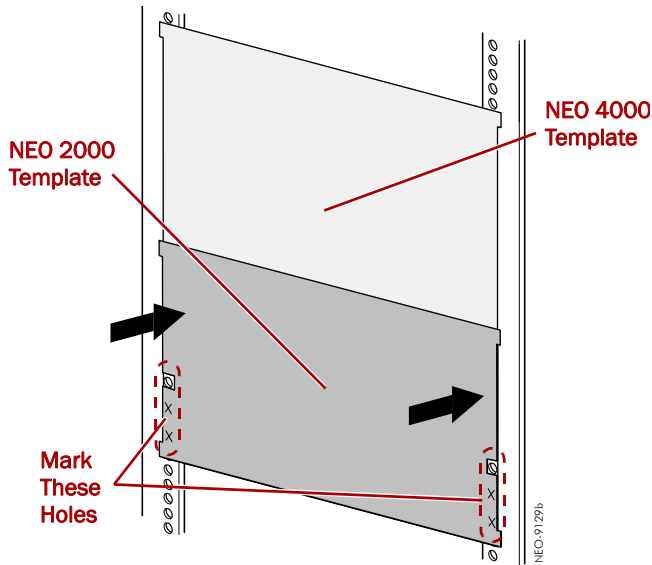

Figure 4. Using the NEO Templates
- Using the **template** (Figure 4), mark the location of the mounting hardware on the RETMA rack rails: